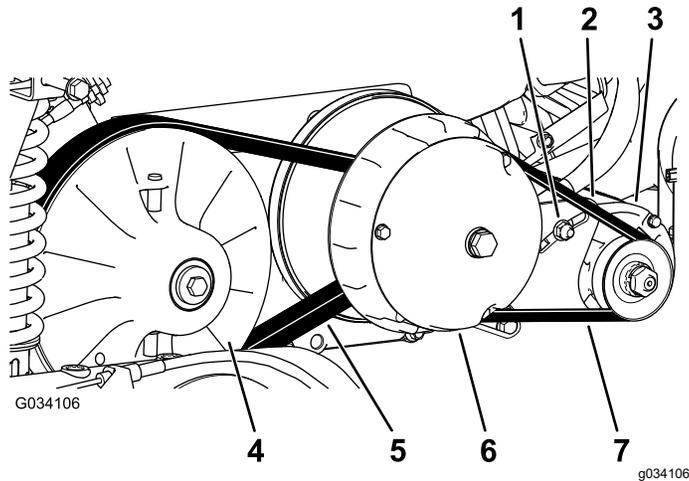

Figure 64
6. Rotate and inspect the belt (Figure 64) for signs of excessive wear or damage.
3. Rotate and route the belt over the secondary clutch (Figure 64).
4. Remove the belt from the primary clutch (Figure 64).
5. Align the new belt over the primary clutch (Figure 64).
6. Rotate and route the belt over the secondary clutch (Figure 64).
2. Loosen the pivot nut for the starter generator (Figure 64).
4. Apply downward pressure to the pry bar to rotate the starter down in the slot until the belt tension only allows 6 mm (1/4 inch) belt deflection with 44 N·m (10 ft-lb) of force (Figure 64).
5. Tighten the pivot nut hand tight, and remove the pry bar (Figure 64).